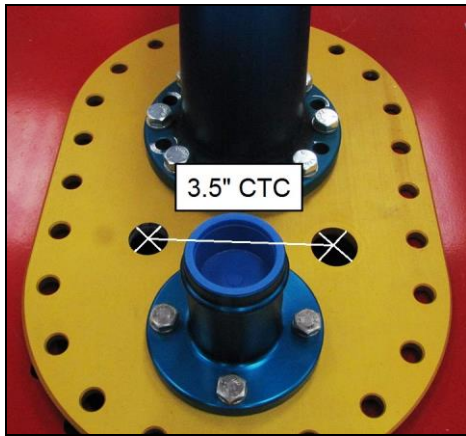

Figure 13
8. Place fill plate on the cell and measure where the feed and return hose should be placed. Drill a $5/16$ " hole (hole on right - **Fig. 13**) for the AT983210ERL 10AN feed hose bulkhead and a $3/4$ " hole (hole on left - **Fig. 13**) for the AT983208ERL 8AN return hose bulkhead (bulkheads included in LS0010ERL hose assembly). Make sure there is at least 3.5" center to center on the holes drilled.